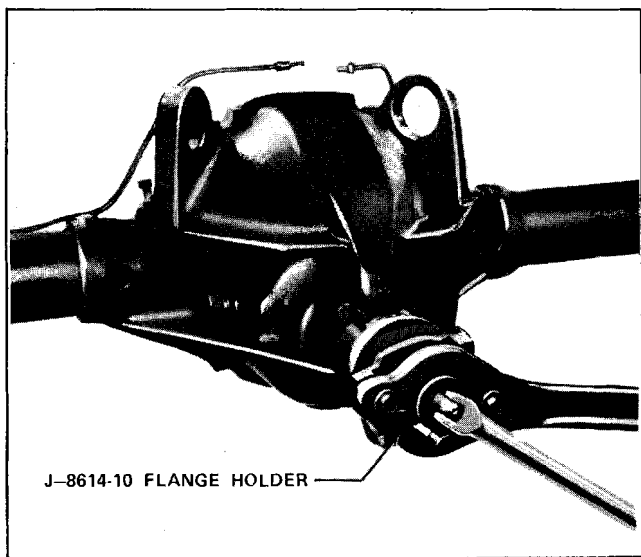

Fig. 4C-9 Removing Pinion Nut
1. Install pinion Flange Holder J-8614-10 to pinion flange and remove pinion nut. See Fig. 4C-9.